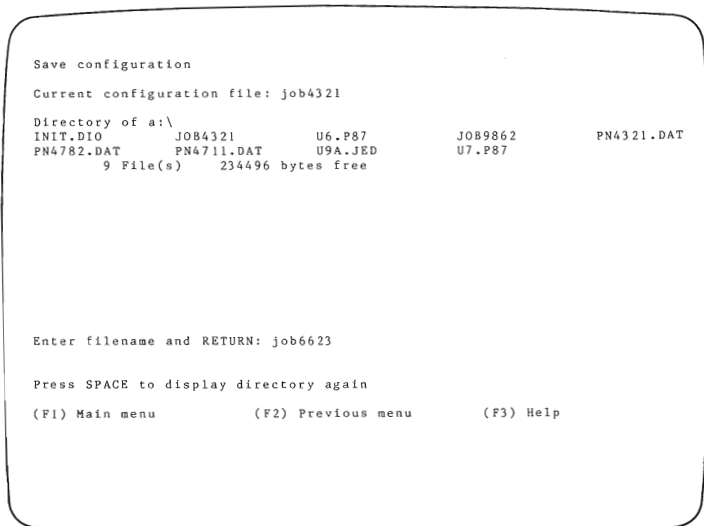

Figure 3-57. Save Configuration Screen
The *Save Configuration* function is an easy way to store a particular programming session's configuration that you want to use later. By entering the file name when prompted from the *Configuration Functions* menu and pressing the RETURN key as shown in figure 3-57, you save the configuration you defined during the programming session and can then *Load* (9) it at a later time.